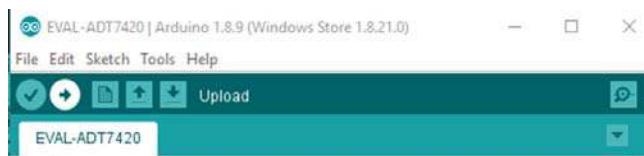

Figure 12. Arduino IDE Upload Sketch
3. Upload the sketch from Step 1 to the Arduino board by clicking the right pointing arrow button shown in Figure 12.